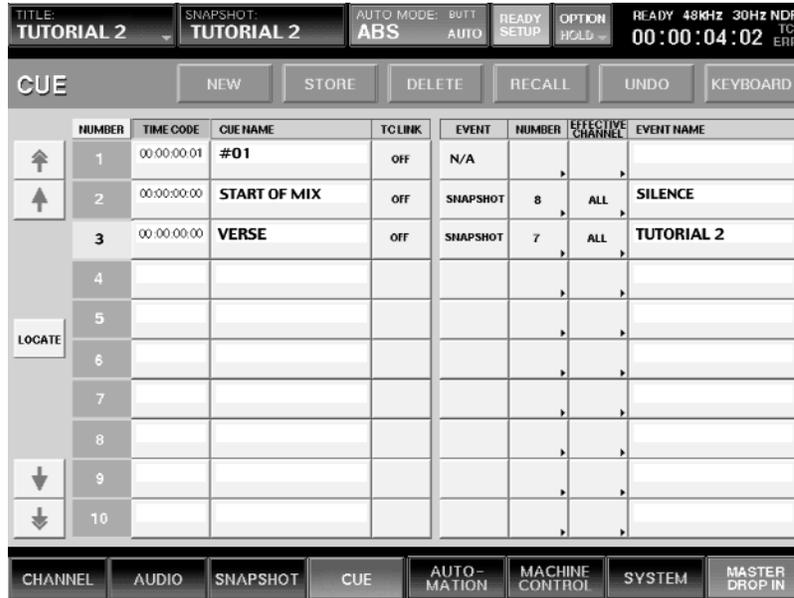

Figure 3
- Press the NEW button again and assign the "Tutorial 2" snapshot to CUE 3, then rename the cue "VERSE". Again, set TC LINK to OFF. (See Figure 3)